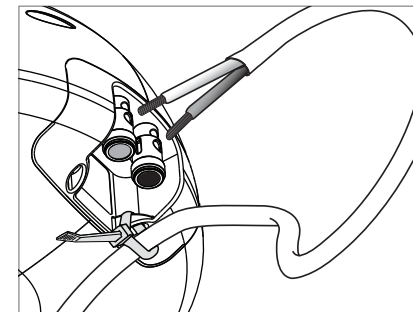

Figure 3. Securing the speaker wire with a wire tie.
7. The speaker has black and red spring-loaded connectors attached to the Rear Wave Control enclosure (**Figure 3**). Black is for the negative (-) wire and red for the positive (+). It is important to observe correct wiring polarity. If you have wire other than black and red, make sure you connect it the same on the amplifier end as the speaker end. Failure to do so will adversely affect the loudspeakers' performance. Supports are provided to secure the speaker wire with wire ties. (not included)